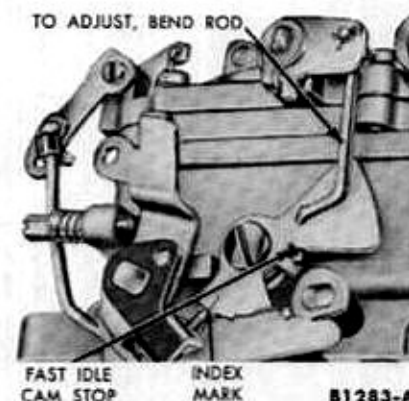

FIG. 48—Fast Idle Cam Adjustment
1. Hold the choke plate tightly closed by pressing on the countershaft lever at the center (Fig. 48).